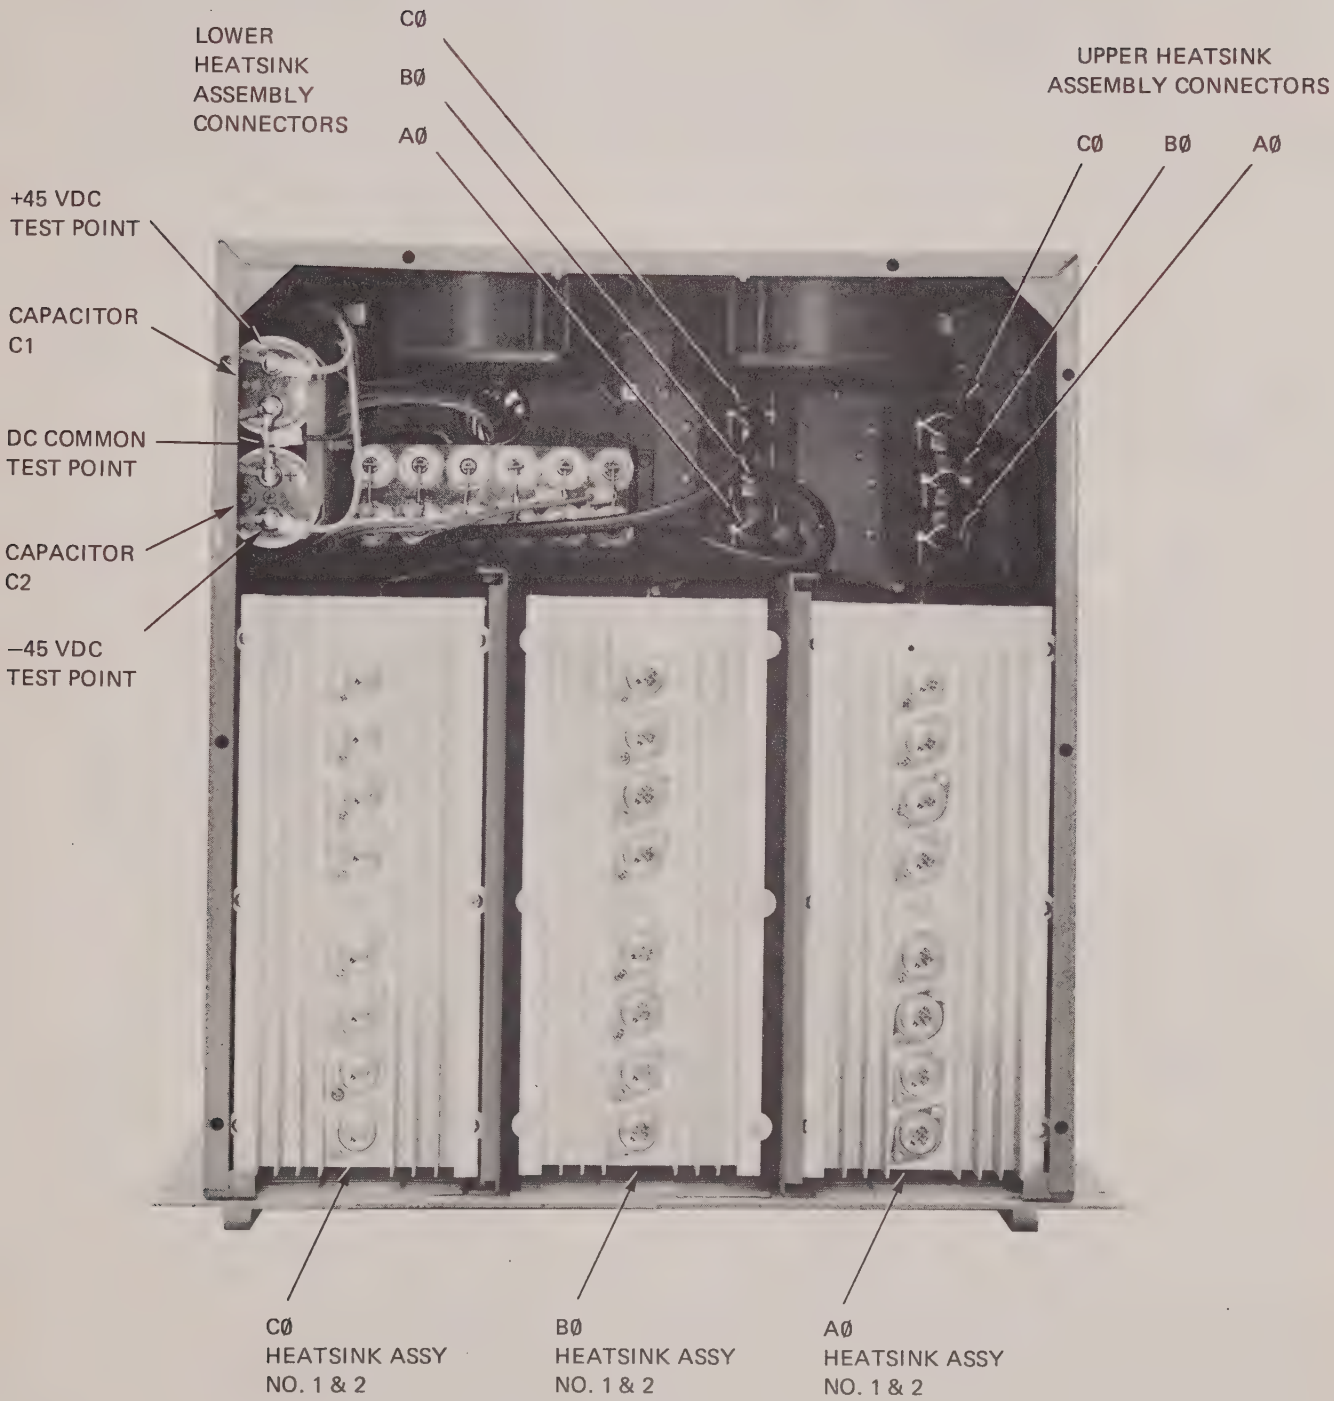

Figure 5-3. Model 1753A Bottom View
2. Connect three resistive loads each capable of dissipating 4.85 amperes. (See Figure 5-3).
3. Connect distortion analyzer to A phase output terminals. (See Figure 5-3).